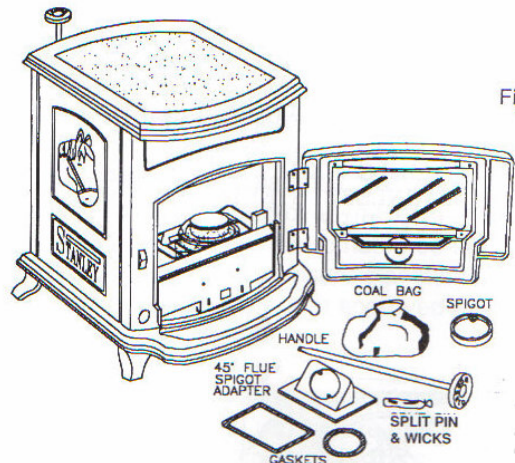

Fig.14
1. Remove all packaging from the stove. (See Fig.14.